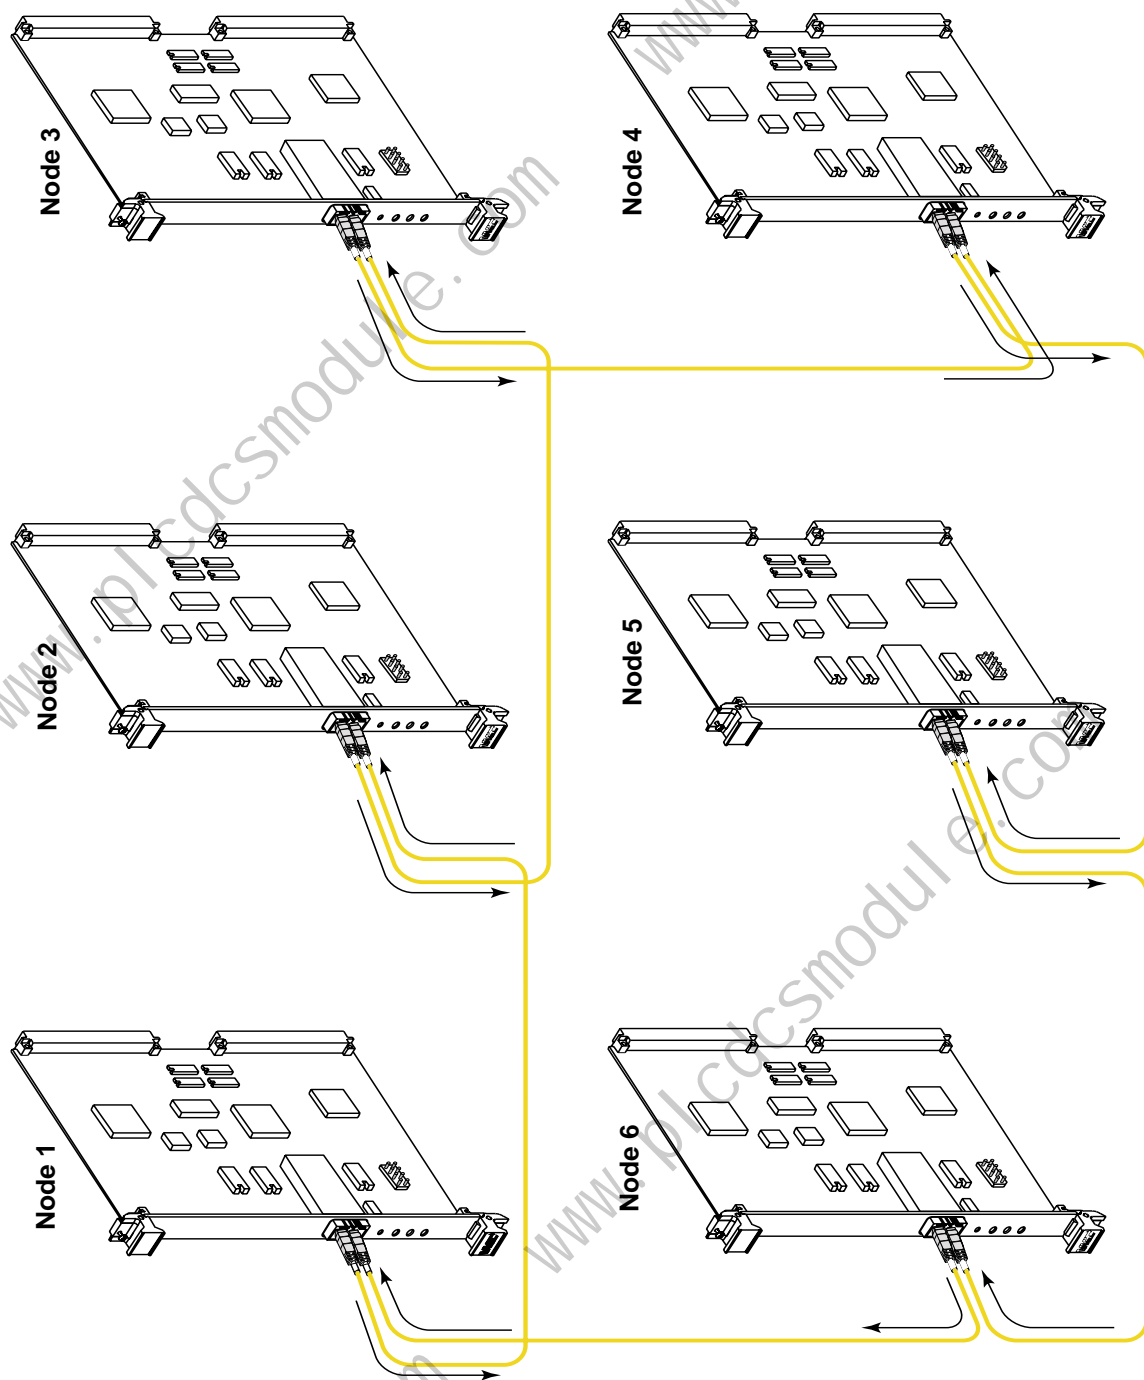

Figure 2-9 Example: Six Node Ring Connectivity
5. Route the fiber-optic cable connected to TX to the RX connector of the next board in the ring. Connect the fiber-optic cable from that board's TX to the RX connector of the next board. Repeat this step until the last node in the ring routes its TX to the RX of the first node. Refer to Figure 2-9 on page 47 for an example of a six node ring.